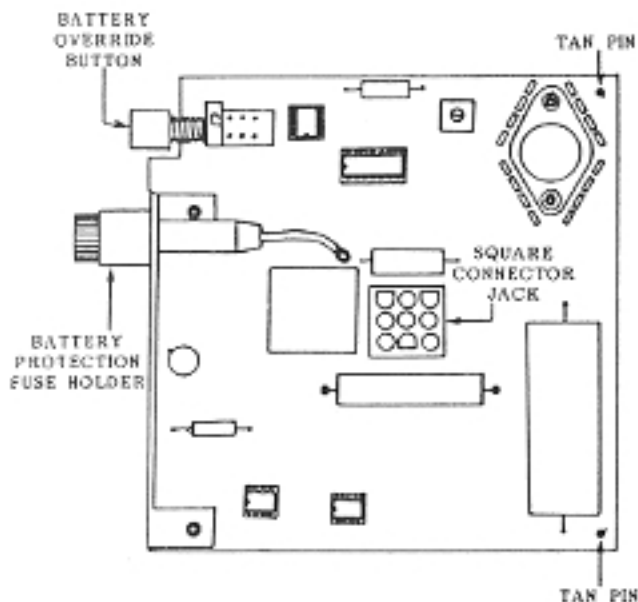

FIGURE 7
02.01 The power battery back-up unit (PBBU) in Figure 7 is an optional PCB which may be installed in the EPSA-104 to interface with two auxiliary 12V batteries. In the event of an electrical power failure, the PBBU provides an automatic battery power source, permitting a typical STRATA VI system to continue normal operations for some time (in direct ratio with the type and size of the batteries chosen).
- The "Battery Override" switch (Figures 7 and 8) is placed in the ON position, or...